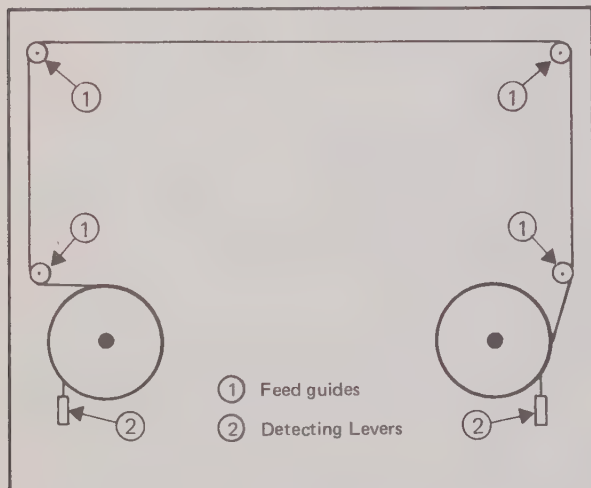

Figure 2-3. Properly Installed Ribbon
2-19. A printer ribbon is supplied with the 2240B and should be installed before attempting to operate the instrument. The ribbon installation location is accessible by raising the printer's front panel to the horizontal position. If the ribbon is already installed, refer to Figure 2-3 and check to ensure that the ribbon is properly positioned on the feed guides and that the ribbon spools are threaded in the proper direction. Use the following procedure for ribbon installation:
- c. On the printer mechanism, locate the push down the detecting lever of either spool shaft (see Figure 2-3) and with the finger side of either spool pointer toward the printer mechanism, slide one of the spools onto the shaft.
- d. Unwind 6 or 8 inches of ribbon from the remaining spool, if necessary, and position the ribbon over the feed guides as shown in Figure 2-3.